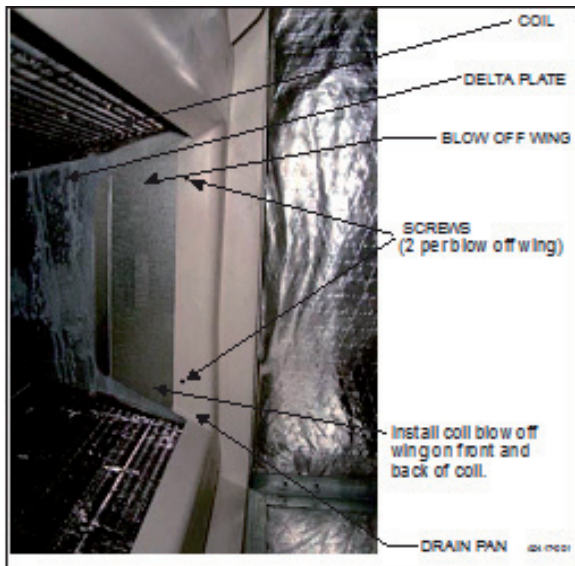

Figure 5. Coil Blow Off Wing Installation
When installing a coil blow off wing, make sure that each notch in the coil blow off wing (see Figure 5) slides around the anchor screw with the bottom of the notch fully set against the screw. Ensure that coil blow off wing is installed with the flange bending away from the coil data plate.
8. For horizontal right applications, install front and back coil blow off wings (blow off wings shipped as loose parts with the unit). Locate 4 screws securing coil data plates to coil drain pan. Loosen the screws. Slide each coil blow off wing between the drain pan and the coil data plate. Tighten screws to securely anchor coil blow off wings. Refer to Figure 5.